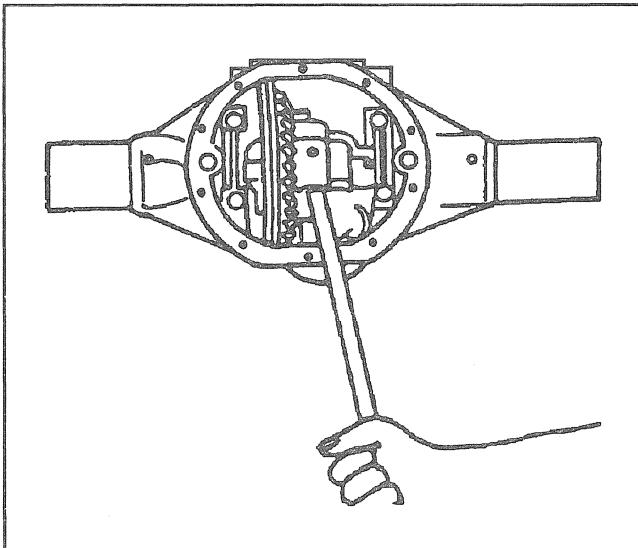

Figure 3—Prying the Differential Case
- 11. Differential case (24).
- Pry the case from the axle housing at the differential "window" (Figure 3).